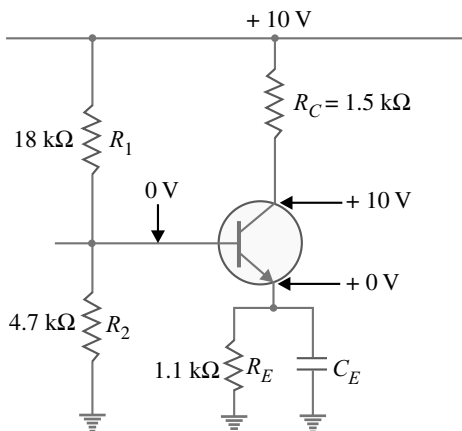

Fig. 7.55
**Example 7.45.** What fault is indicated in Fig. 7.55? Explain your answer with reasons.